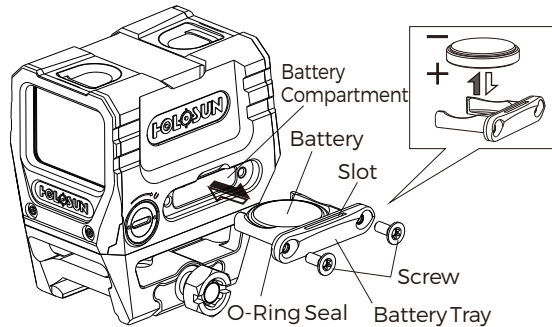

Fig 3
2. Battery replacement. (See Fig 3)